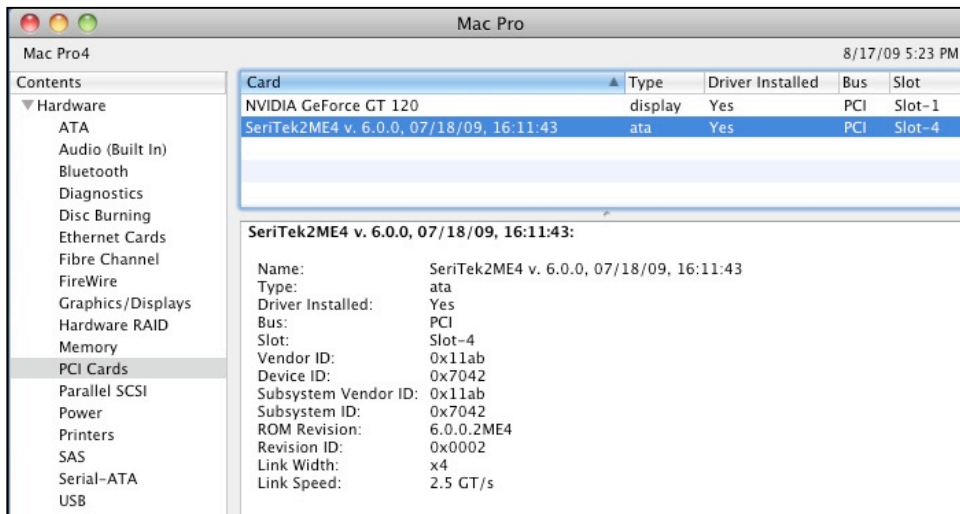

Figure 14: SeriTek/2ME4-E Listed Under *PCI Cards*
2. Select *PCI Cards* (Figure 14).